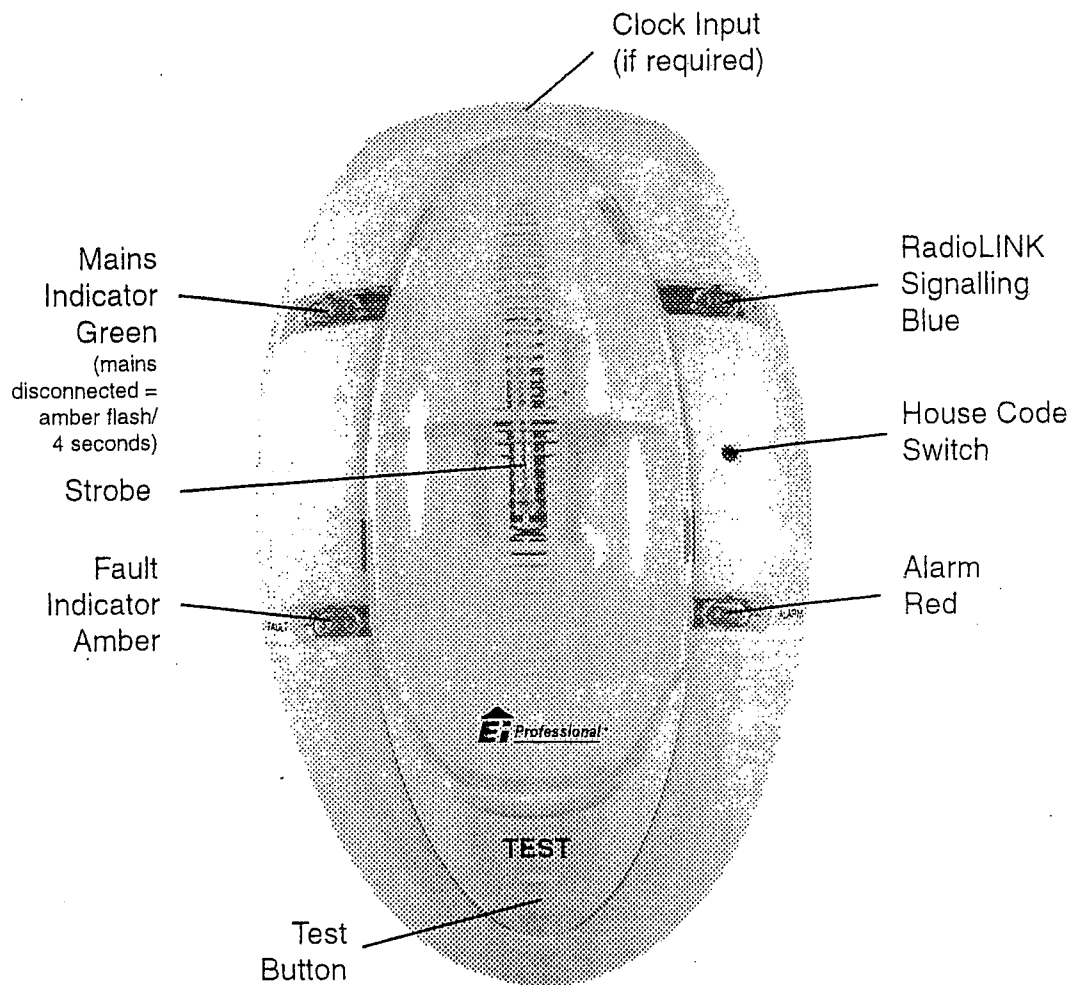

Figure 4
3.1.2 Press the House Code switch on all units – see individual instruction leaflets for switch locations. On the Strobe Module, the House Code switch is pressed by means of small screwdriver (or similar, diameter of top less than 3mm), through the access hole on the top of the unit – see figure 4.
Check the Strobe Module indicator lights as follows (see figure 4)
"Clock Input" Socket: A suitable alarm clock signal (with a 5 to 24 Volts AC or DC output – electrically isolated from the mains supply) can be connected to this input socket with a 3.5mm mono jack plug. (see figure 4) When the alarm clock triggers, the vibration pad turns on continuously (i.e. it is not pulsed) to wake the person, but the internal strobe or auxiliary outputs are not activated. This lets the user know it is a wake-up call and not a fire. Therefore the user needs only one vibration pad under their pillow or mattress – rather than two, one for the Fire Alarm and one for the alarm clock.